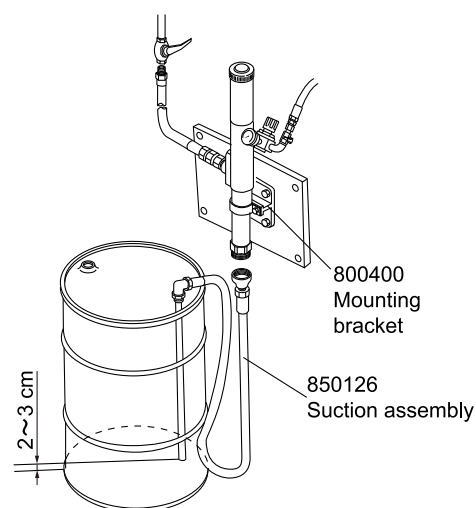

Fig. 5
- 1) Loosen the bolts of the pump fixing band for the mounting bracket (option, product number 800400) to remove the band. Set the pump onto the bracket, support with the pump fixing band, and fix with accessory bolts. When this is done, tighten the bolts to such an extent that the pump will not rotate. (The tightening torque is 12N-m or less.) If tightened too much, the plunger in the suction tube will not work. (Fig. 5)